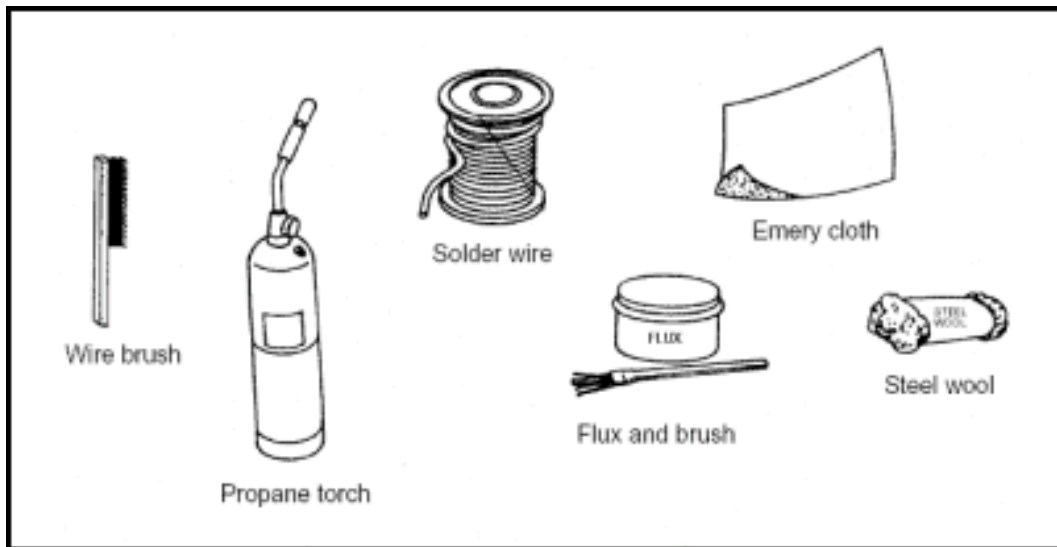
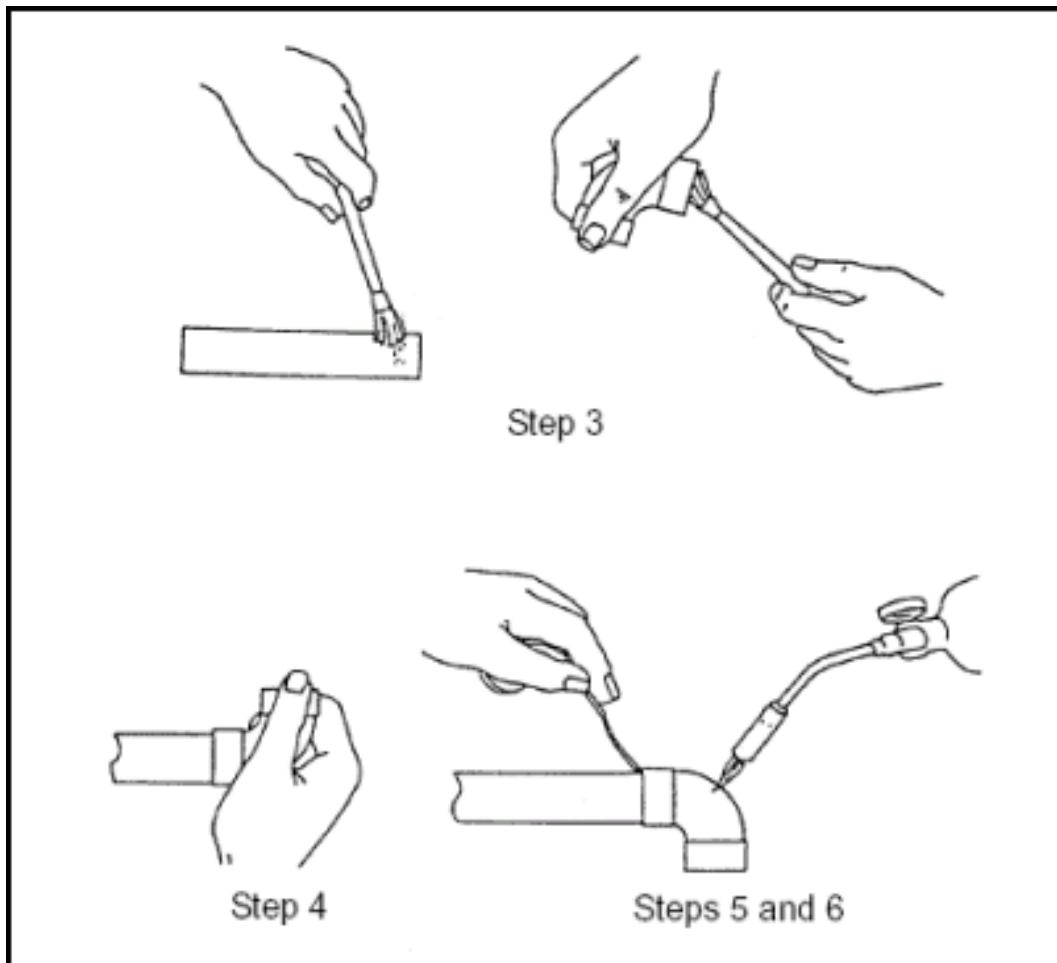

Figure 6-34. Soldering Tools and Materials
Figure 6-35. Soldering a Joint
6-70. Soldered joints are used to connect rigid copper tubing. The following tools and materials are needed: a heating torch, 95-5 (95 percent tin and 5 percent aluminum) nonacid solder, soldering flux, and emery cloth or steel wool (Figure 6-34). Use Figure 6-35 and the following steps to make a soldered joint:
Step 3. Apply a thin coat of flux to the shined end of the tubing and fitting (Figure 6-35).
Step 4. Push the fitting onto the tubing and give it a quarter turn to spread the flux evenly (Figure 6-35).
Step 5. Heat the connection with a torch, applying the flame on the fitting (Figure 6-35).